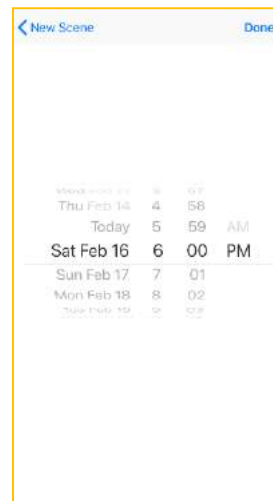

Figure 29
- ✔ **Scene Time** – click to enter hours and days for execution of the scenario (Fig. 29).